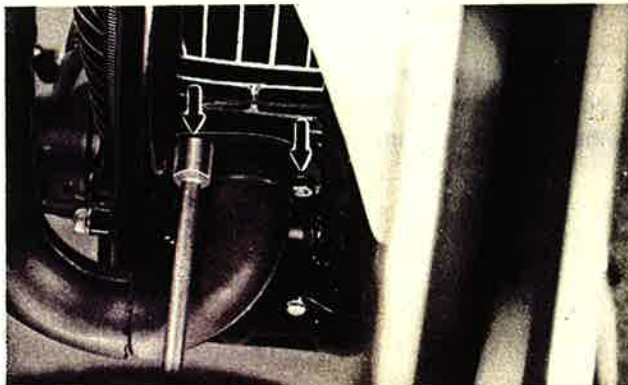

Fig. 3-1-5
3. Remove the bolts holding the exhaust pipe to the cylinder (Fig. 3-1-5)